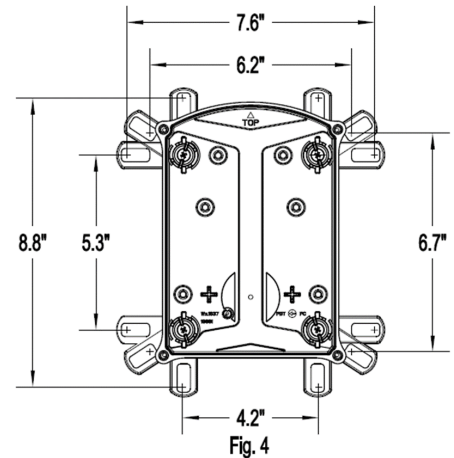
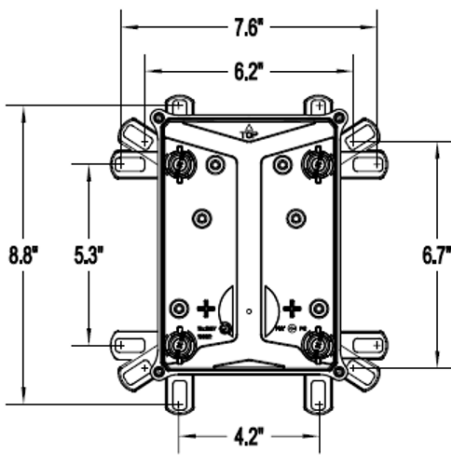

Fig. 4
Fig. 3
For DS Box: See Fig. 3 for water seal cap locations and where mounting feet are attached.
For CDS Box: See Fig. 4 for water seal cap locations and where mounting feet are attached.
3. Position external mounting feet as desired in 1 of 3 positions. See Fig 3 for DS Box; Fig 4 for CDS Box. Secure mounting feet to enclosure with provided screws. Tighten to 13 in. lb max. See Fig. 3b.
5. Mounting Feet accept up to 1/4" hardware (not provided). Mark mounting pattern to selected mounting foot pattern. See Figs. 3 or 4. Prepare surface as required for hardware and mount to Flat Vertical Surface.